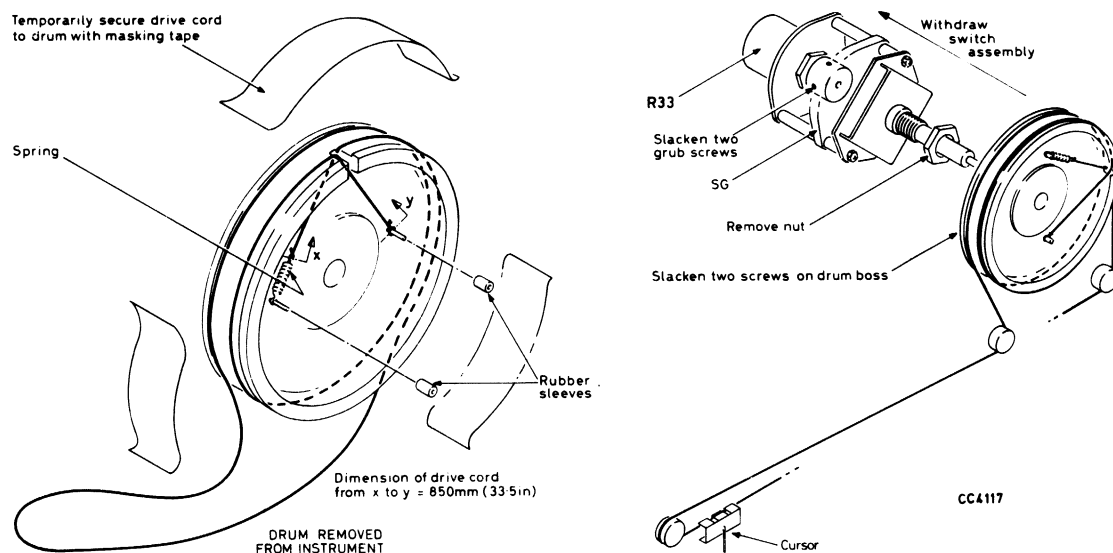

Fig. 6 Replacing drive cord.
Circuit diagram : Chap. 7, Fig. 2 (A5) and Fig. 6 (A3).
Circuit diagram : Chap. 7, Fig. 6 (A3 & A4)
- (1) Remove the case from the instrument and remove the attenuator unit (see Chap. 5 para. 8) and the reverse power protection unit.
- (2) Remove the scale plates for the three highest frequency ranges.
- (3) Set the RANGE switch to the 22 - 48 kHz position.
- (4) Stand the instrument upside-down on the bench.
- (5) Referring to Fig. 6, slacken the grub screws and unscrew the nut to pull aside R33.
- (6) Remove the drum and attach the drive cord as shown in Fig. 6, temporarily holding it in place with adhesive tape. Seal the cord knots with bakelite varnish.
- (7) Replace the drum and completely refit the switch SG and R33 assemblies.
- (8) Fit the loop of cord around the three pulleys. Check that the cord spring is under tension. If the cord has been properly dimensioned, the expanded length of the spring will be about 12 mm ($\frac{1}{2}$ inch). Refit the knobs.
- (9) Attach the pointer to the drive cord and adjust its position so that it reaches (or just passes) the calibration marks on the 53 MHz to 120 MHz range (range 12).
- (10) Refit scale plates, attenuator unit, reverse power protection unit and case.